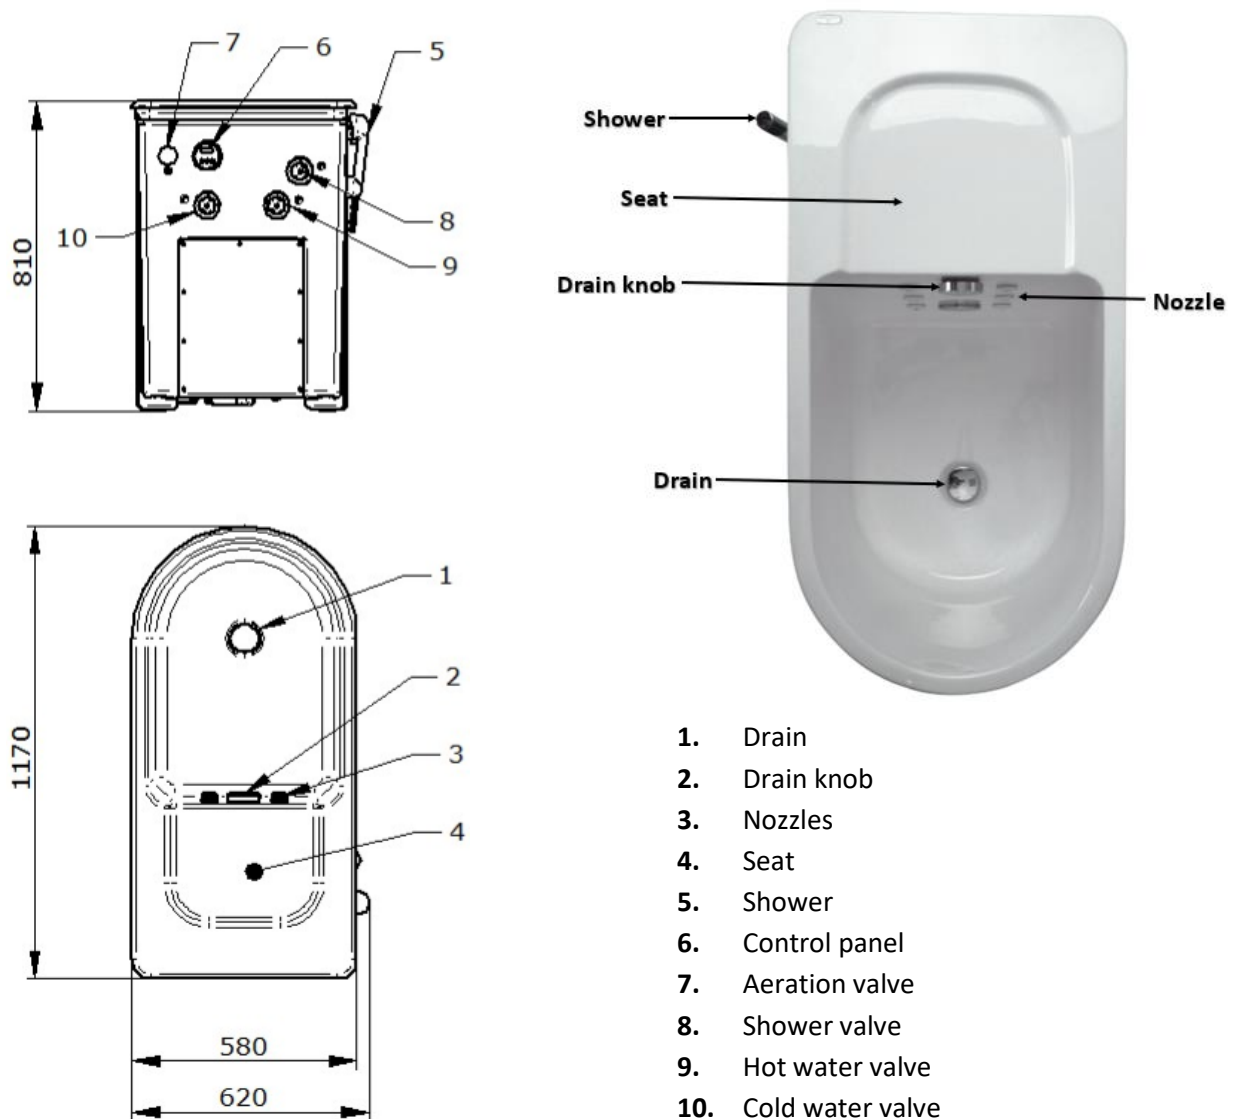

Figure 1 - View of the WKD whirl massage device for lower limbs
After filling the device with water by opening the hot/cold water valves (fig.1 item 9 and 10) and pushing the "ACTION" button, the basin is filled to a capacity of approx. 120 liters.
The water pump, switched on in an appropriate time sequence, pumps water through 6 nozzles (fig.1 item 3) located in the device basin.